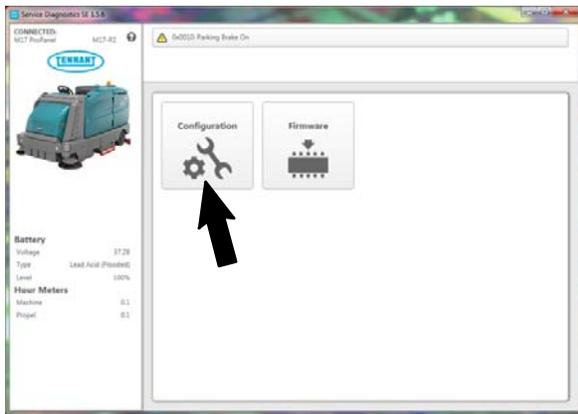

FIG. 24
12. Check the machine configuration selections for incorrect installed options. Select the Configuration button. (Fig. 24)